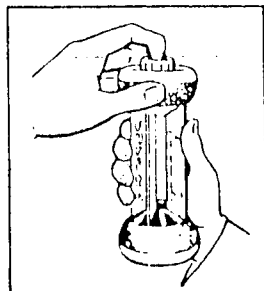

Figure 2
1. Hold FYRITE upright (Fig. 2) and away from face. Depress Plunger Valve (momentarily) to vent FYRITE, and release.
4. Hold FYRITE in upright (Fig. 2) position and away from face. Depress Plunger Valve (momentarily), and release.